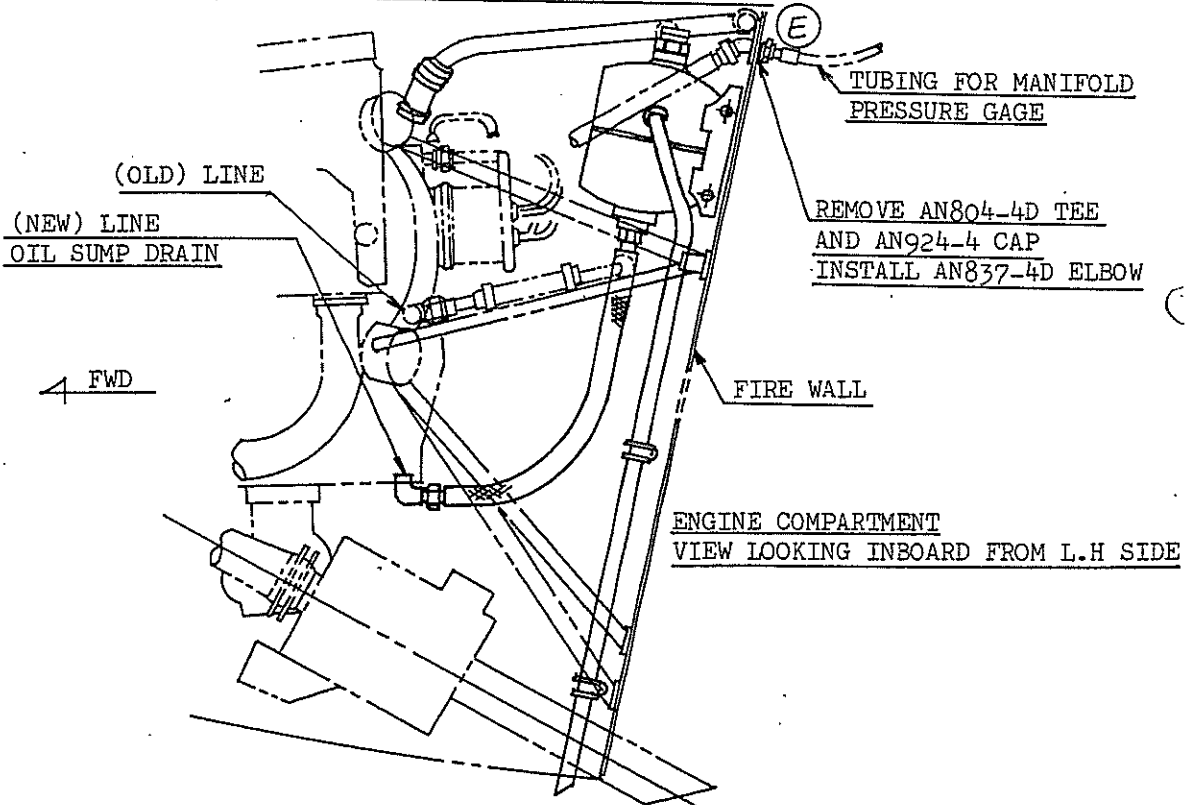

FIGURE 2. INSTALLATION OF OIL SEPARATOR
- (4) Loosen two clamps, MS21919DG12, and two clamps, AN737RM38, and remove engine breather tube, 200-914131-003, and hose, F-0454-12038. (See Figure 2, Area B.)
- (5) Using four bolts, AN3-3A, and four washers, AN960D10, attach oil separator, 203-914146-051, to the brackets installed in the above step (3).
- (6) Install elbow, AN833-12D, on the top of the oil separator with "O" ring, MS28778-12, and nut, AN924-12D.
- (7) Install reducer, AN919-15D, on the bottom of the oil separator with "O" ring, MS28778-8.
- (8) For aircraft with manifold pressure gage installed, remove tee, AN804-4D, and cap, AN929-4, from the firewall, and install elbow, AN837-4D, in place. (See Figure 2, Area E.)
- (9) Connect tube, 200-914131-127, to the elbow on the top of the oil separator. Drill out the existing rivet on the firewall at indicated C area, and, after enlarging the hole to 170/174 inch diameter, install clamp, MS21919DG12, with screw, MS35206-246, and nut, NAS679A08W.
- (10) Connect the above tube, 200-914131-127, and the breather fitting with hose, F-0454-12050, and secure with the two clamps, AN737RM38, removed in the previous step (4).
- (11) Replace plug, STT-351, at R/H oil sump drain port (Figure 2, Area D) with elbow, MS20822-10D.
- (12) Install hose, SRC79-10-0230 between the reducer attached in step (7) and the above elbow.
- (13) Attach hose, F-0454-12050, to the oil separator fitting, connect tube, 200-914131-129, and then secure with two clamps, AN737RM38.
- (14) Install tube, 200-914131-129, with the two clamps, MS21919DG12, removed in the previous step (4).
- (15) Attach tube, 200-914131-129, to the vacuum pump drain tube with clamps, MS21919DG12 and MS21919DG8, screw, MS35206-246, nut, NAS679A08W, and washer, AN960D8 (See Figure 2, Area E).
- (16) Bond the stripped insulation to the firewall with Cemedine #540.
- (17) Reinstall the co-pilot seat.
- (18) Reinstall the engine upper cowling.